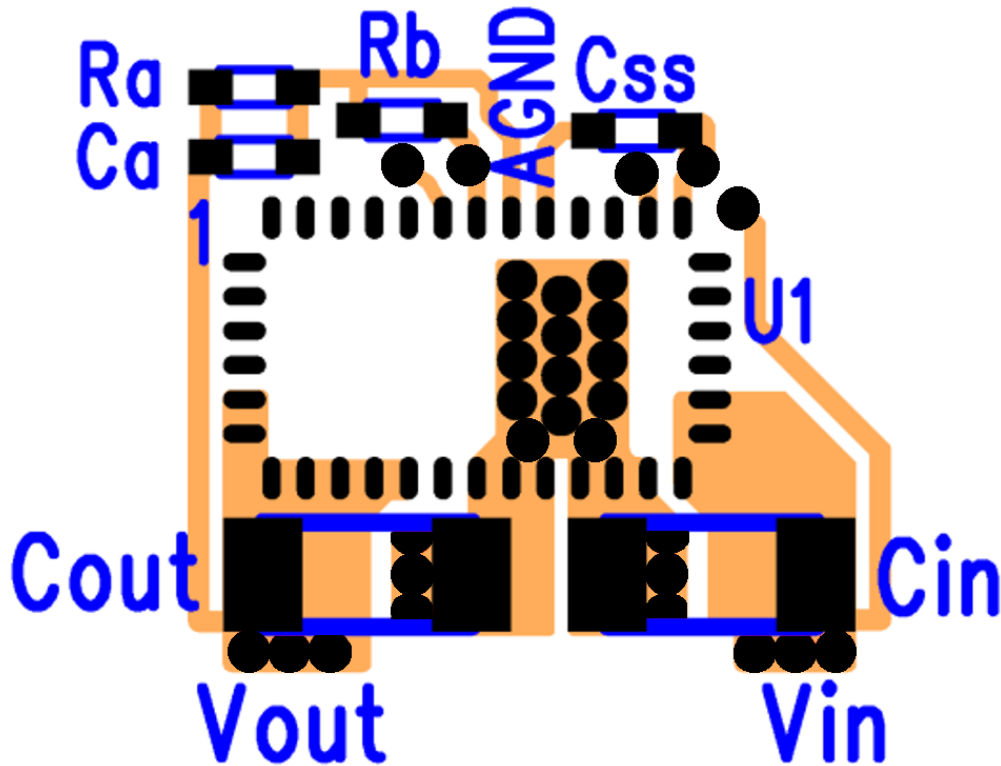

Figure 10: Top PCB Layer Critical Components and Copper for Minimum Footprint (Top View)
Figure 10 shows critical components and layer 1 traces of a recommended minimum footprint EN6337QI layout with ENABLE tied to  $V_{IN}$  in PWM mode. Alternate ENABLE configurations, and other small signal pins need to be connected and routed according to specific customer application. Visit the Enpirion Power Solutions website at [www.altera.com/powersoc](http://www.altera.com/powersoc) for more information regarding layout. Please refer to this Figure 10 while reading the layout recommendations in this section.
**Recommendation 2:** Three PGND pins are dedicated to the input circuit, and three to the output circuit. The slit in Figure 10 separating the input and output GND circuits helps minimize noise coupling between the converter input and output switching loops.
**Recommendation 5:** Multiple small vias (the same size as the thermal vias discussed in recommendation 4) should be used to connect ground terminal of the input capacitor and output capacitors to the system ground plane. It is preferred to put these vias under the capacitors along the edge of the GND copper closest to the +V copper. Please see Figure 10. These vias connect the input/output filter capacitors to the GND plane, and help reduce parasitic inductances in the input and output current loops. If the vias cannot be placed under  $C_{IN}$  and  $C_{OUT}$ , then put them just outside the capacitors along the GND slit separating the two components. Do not use thermal reliefs or spokes to connect these vias to the ground plane.
**Recommendation 6:**  $AVIN$  is the power supply for the internal small-signal control circuits. It should be connected to the input voltage at a quiet point. In Figure 10 this connection is made at the input capacitor close to the  $V_{IN}$  connection.
**Recommendation 7:** The layer 1 metal under the device must not be more than shown in Figure 10. See the section regarding exposed metal on bottom of package. As with any switch-mode DC-DC converter, try not to run sensitive signal or control lines underneath the converter package on other layers.